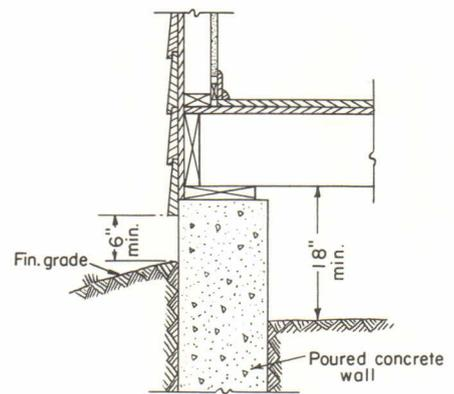

FIG. 3. Easily inspected poured concrete foundation walls or piers(13)
- poured concrete (fig 3) properly reinforced to prevent large shrinkage or settlement cracks will give the greatest protection. Cracks that are 1/32" or more in width will permit the passage of termites and should be prevented insofar as possible.